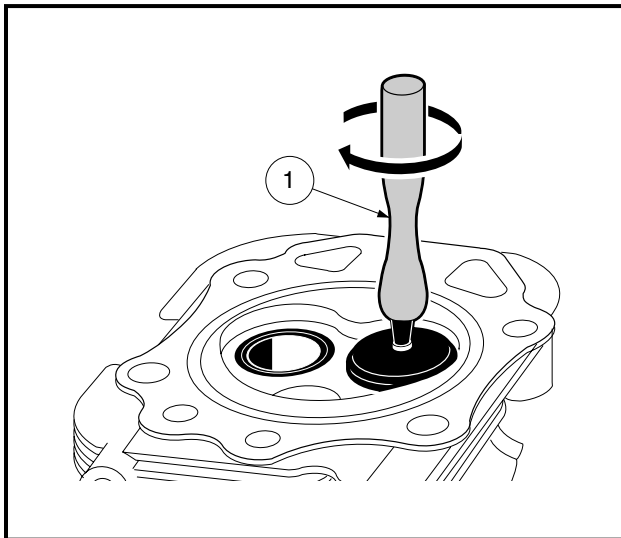

Figure 3-22 Lap Valve To Valve Seat
- 4.2. Use the vacuum cup lapping tool (1) to grip the top of the valve. Rotate the valve in a circular motion to lap the valve to the seat (**Figure 3-22, Page 3-13**).